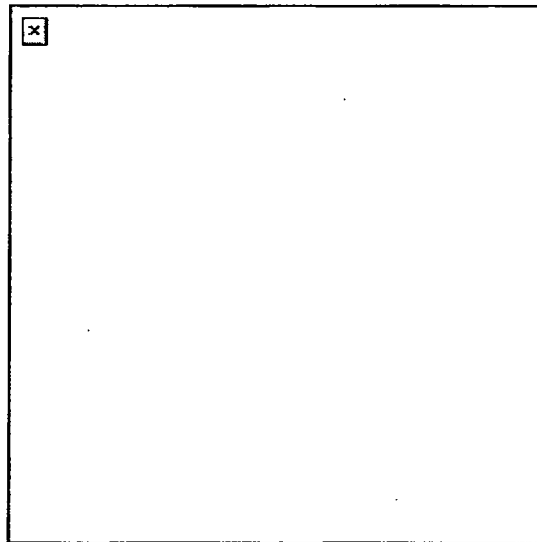

Figure 191-381-1370-5
- a. Make a fist with your strong hand, and raise it so that your arm is vertical and your biceps is as close as possible to your ear. (Figure 191-381-1370-5).